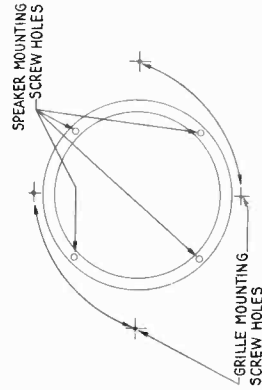

FIGURE 3
**Speaker Cable and Speaker Installation (Fig. 3 and 4)**